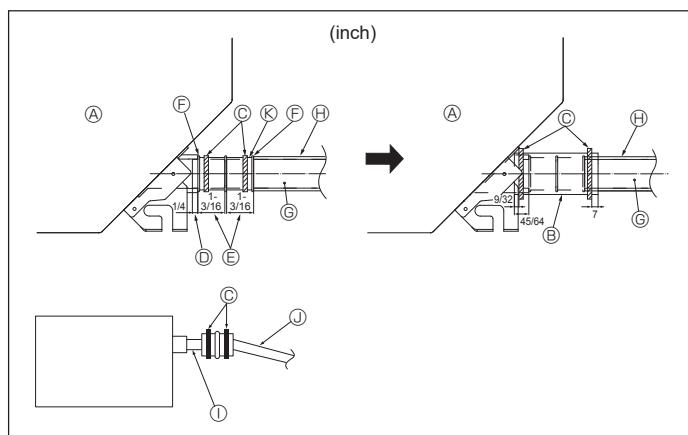

Fig. 5-2
⑩ Up to 85 cm, 33-7/16 inch
⑪ Main unit
- 1 Connect the drain socket (supplied with the unit) to the drain port. (Fig. 5-2)